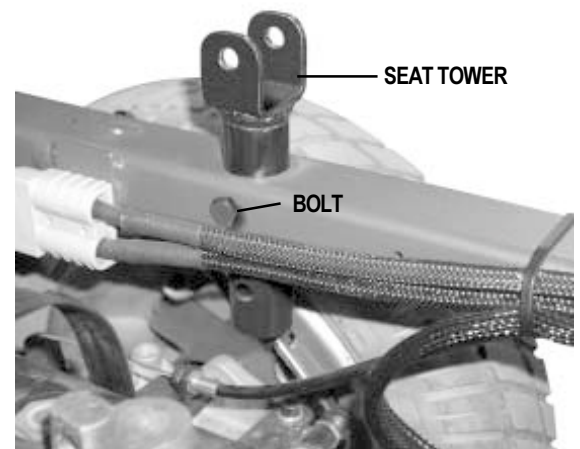

Figure 11. Seat Tower (Rear Shown)
8. Remove the bolt that fastens each of the four seat towers to the frame. See figure 11.